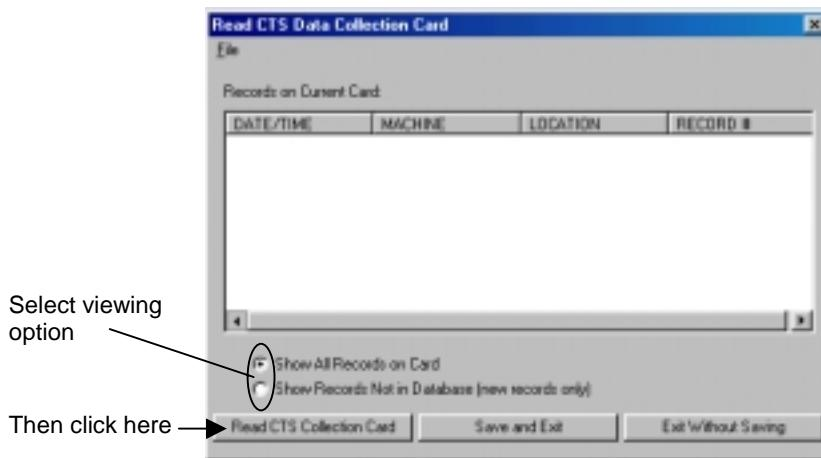

Figure 9.17 Reading the Cash CTS Data Collection Card
3. Select option to show all the Cash CTS data collections on the card or only ones that have not been saved to the database, then click the Read CTS Collection Card button (Figure 9.17).